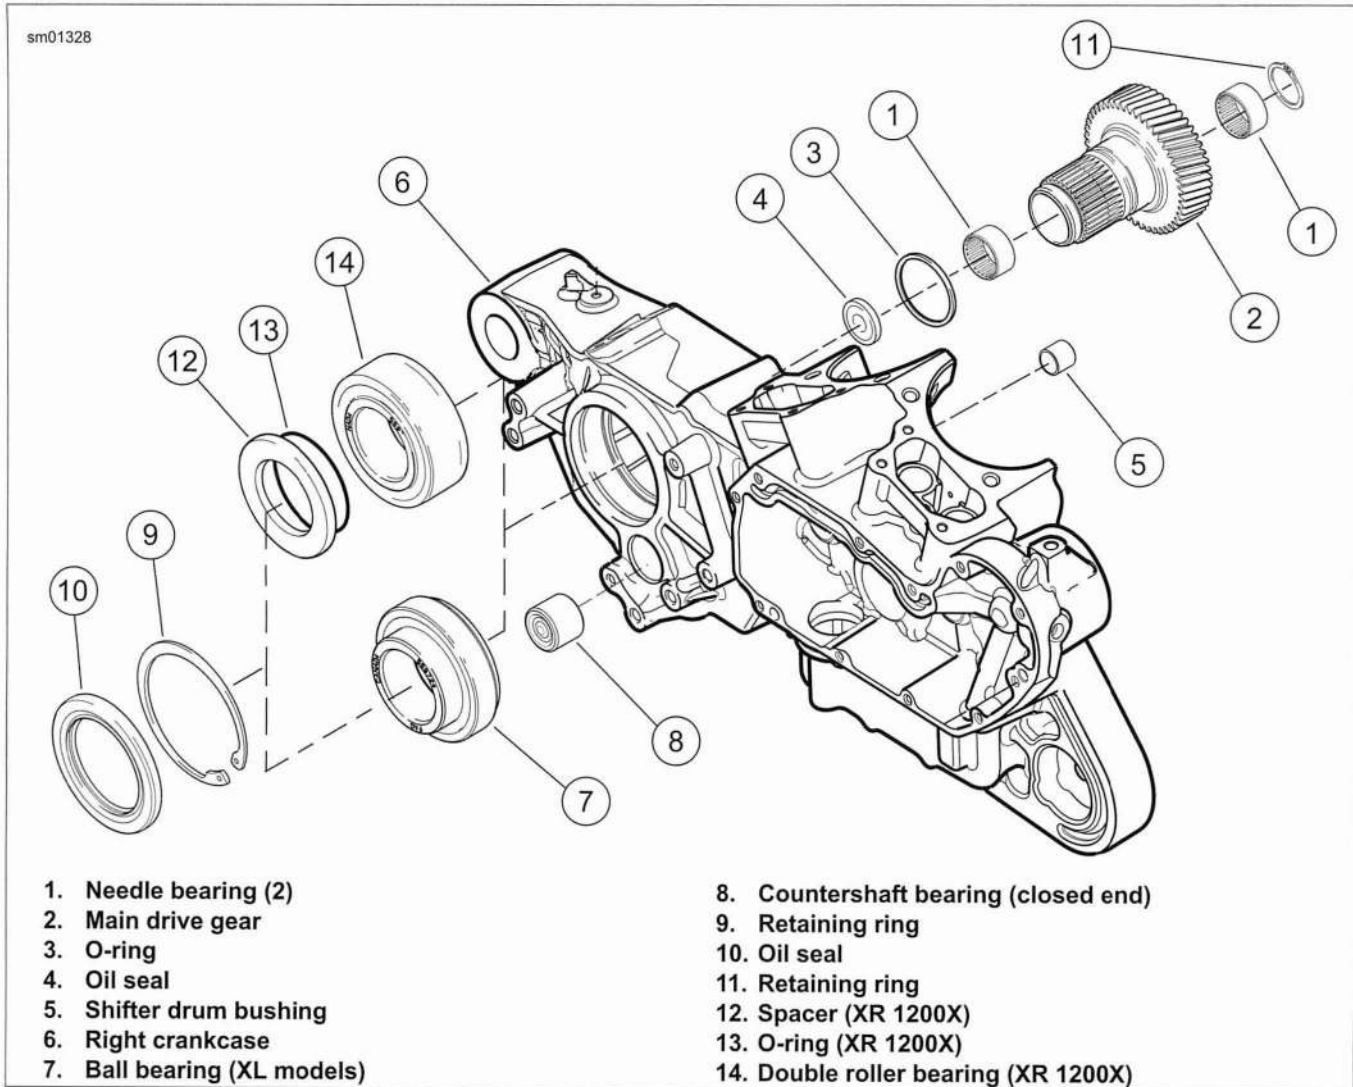

Figure 5-64. Main Drive Gear and Bearing Assembly
See Figure 5-64. When removing the main drive gear (2), the gear is pressed out against the resistance of the bearing (7 or